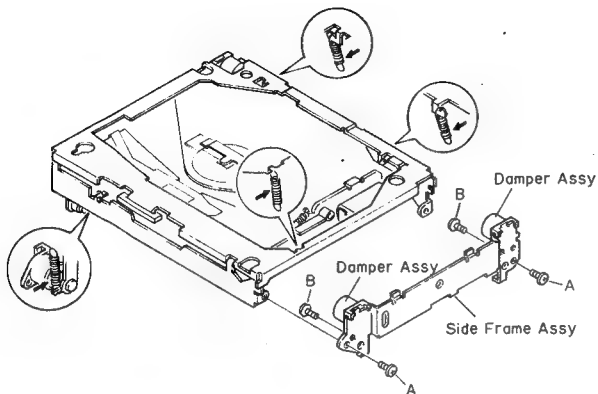

Fig.14
- 4.Remove the four springs indicated by arrow.(Fig.14)
- 5.Remove the two screws A, and then remove the side frame assy.(Fig.14)
- 6.Remove the two screws B, and then remove the damper assy.(Fig.14)